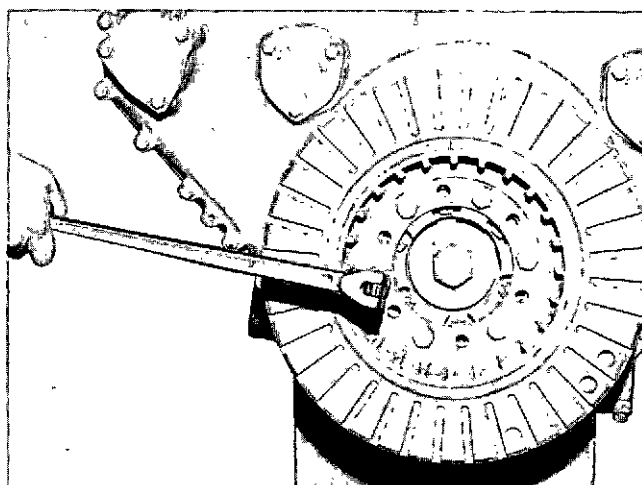

Fig. 0-27, V40060, Removing vibration damper
1. Remove lockwires (or bend up lockplates if used) and capscrews securing vibration damper; lift off damper. Fig. 0-27.